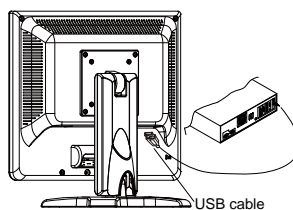

Figure 1-7
2. Connect the USB cable to LCD Monitor(See Fig. 1-7)